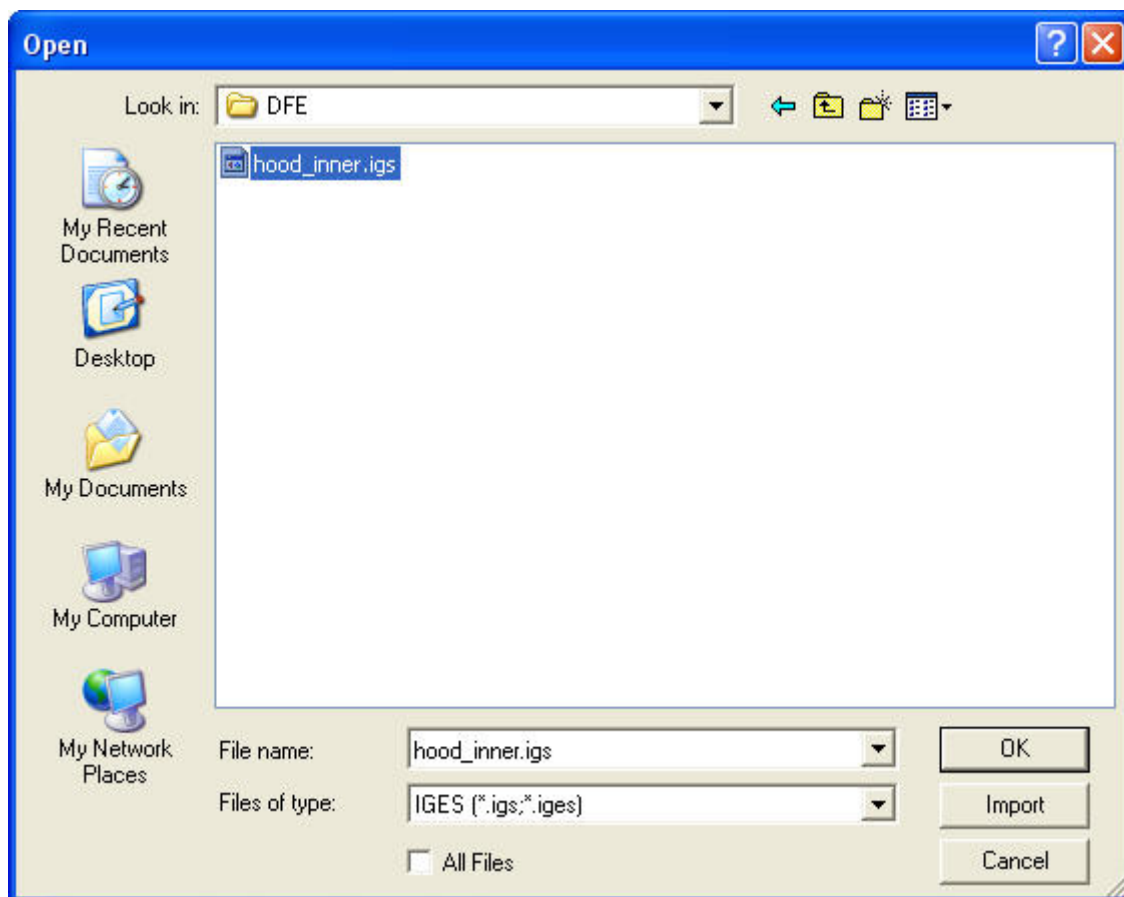

Figure 1 Import file dialog box
1. From the menu bar, select **DFE→PREPARATION→IMPORT** to open the IMPORT FILE dialog box illustrated in Figure 1.